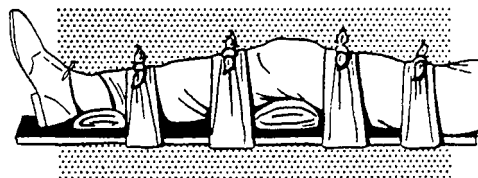

Figure 10-52.—Immobilization of fractured kneecap.
Carefully straighten the injured limb. Immobilize the fracture by placing a padded board under the injured limb. The board should be at least 4 inches wide and should reach from the buttock to the heel. Place extra padding under the knee and just above the heel, as shown in figure 10-52. Use strips of bandage to fasten the leg to the board in four places: (1) just below the knee, (2) just above the knee, (3) at the ankle, and (4) at the thigh. **DO NOT COVER THE KNEE ITSELF.** Swelling is likely to occur rapidly, and any bandage or tie fastened over the knee would quickly become too tight.